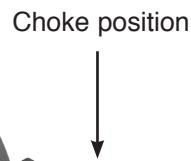

Figure 8
1. Move the choke lever to "CHOKE" position. (Figure 8)